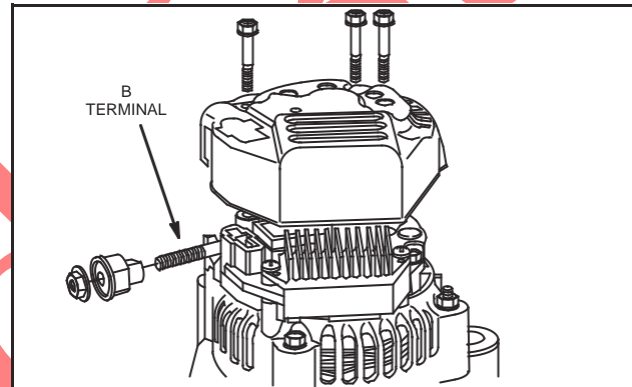

Fig. 23 – Remove Rear Cover
3. Remove three screws and brush cover, Fig. 23.